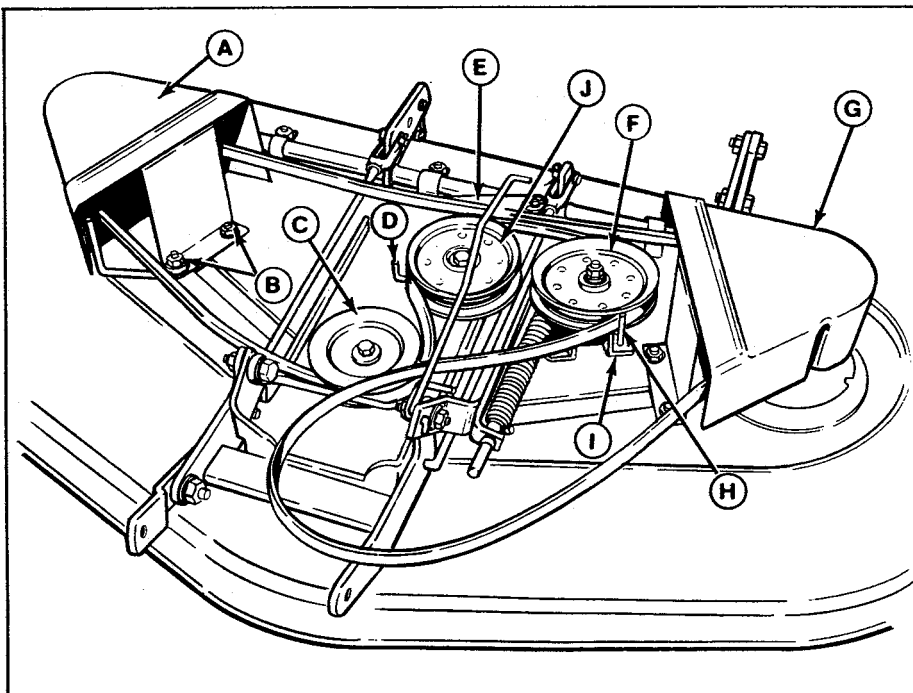

Figure 21. Mower Belt Replacement
2. Loosen the left belt stop (H, figure 21) enough to slip the belt off the pulley. Remove the right belt stop (D).